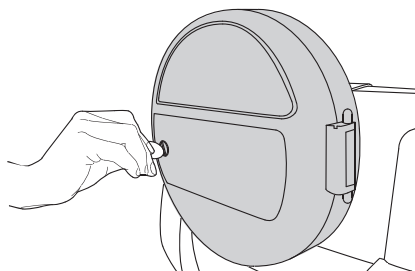

Figure 13
- Use a coin to lock up the spare wheel case. See Figure 13.